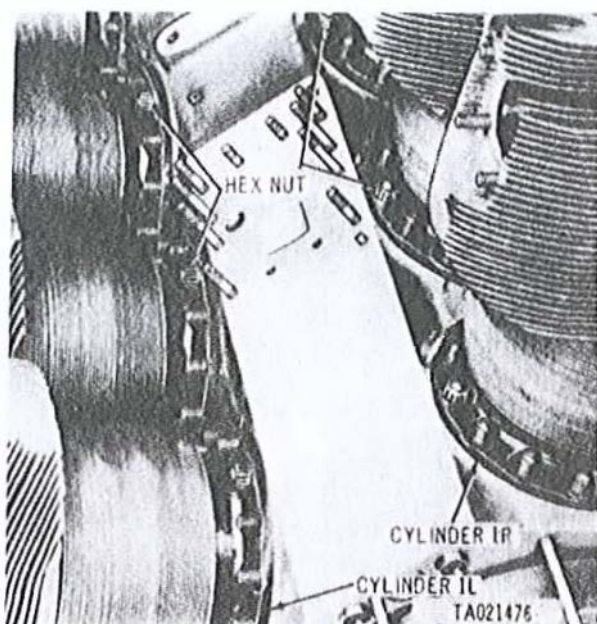

Figure 3-103. Right bank cylinders in vertical position for removing or installing cylinders from crankcase.
d. After checking the breaking torque, remove all nuts (fig. 3-103) except one on each side of cylinder mounting flange. The remaining two nuts are removed after piston has been positioned for cylinder removal (g below).
e. Turn engine on stand so right bank cylinder assemblies are in a vertical (upright) position. Rotate crankshaft using splined wrench Part No. 10882747 (fig. 2-42) and observe when connecting rod has raised piston to top center. Remove the remaining two nuts (fig. 3-103) from the right cylinder assembly.
assembly on coupling (fig. 2-148.2) Rotate crankshaft and observe when connecting rod has raised the piston to top center. Remove the remaining two nuts (fig. 3-103) from the right cylinder assembly.
Do not remove the nuts holding the left cylinder assemblies (fig. 3-103) to crankcase until left cylinders have been rotated to an upright position for removal.